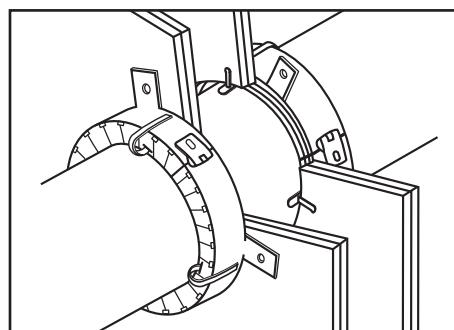

Figure 6: Gypsum wall or hollow CMU application.
A. The PPD must be installed on both sides of a wall. Repeat the above steps to install the second PPD (Figure 6).